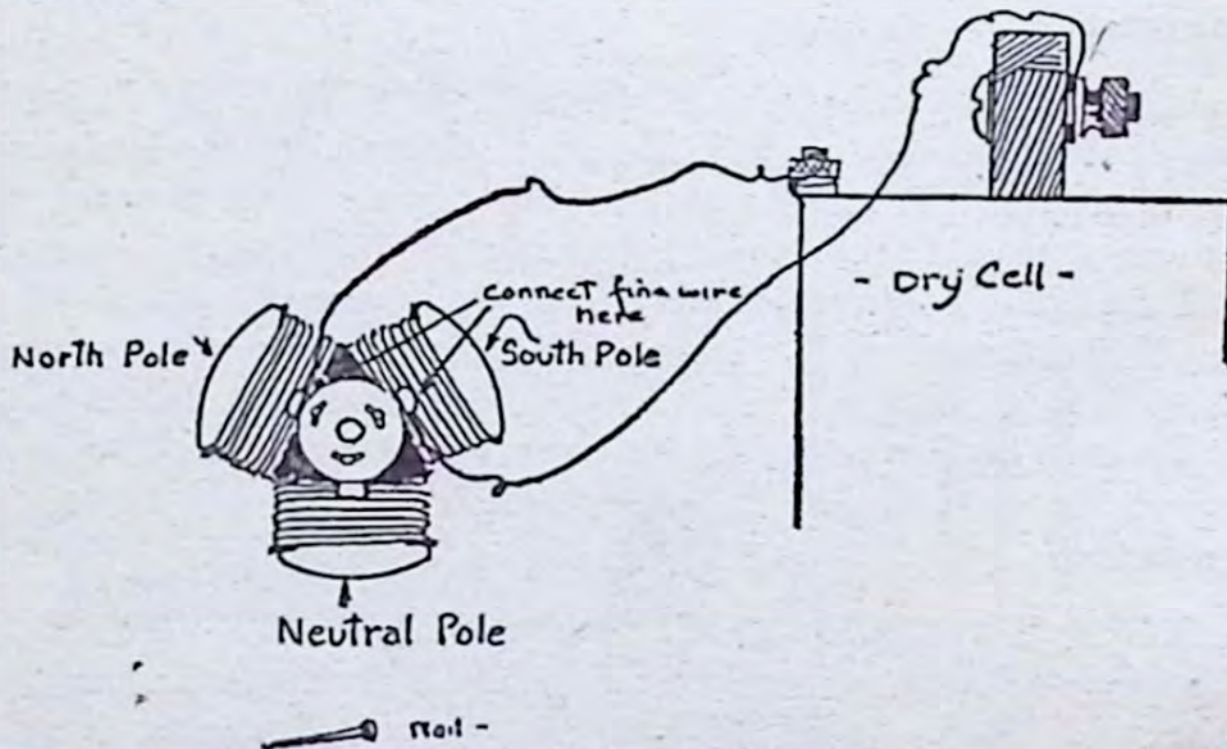

Fig. 11
(13) HOW TO TEST THE ARMATURE POLES FOR MAGNETISM: The core of the motor armature has three pole pieces and each one of these is wound with a separate coil of wire. Now, the thing to do is to find out how many and which poles are magnetized when the current is passed through the coils of wires. You can test them out by twisting a piece of very fine wire around each of the connections where the ends of the armature coils are soldered to the commutator, as shown in Fig. 11. Connect two of these wires at a time with a dry cell or a battery. Now lay a little nail on the table and hold the armature over it. Try the magnetic power of each pole and you will find that two of them are magnetized and that the third one is not.
(14) HOW TO TEST THE POLARITY OF THE ARMATURE POLES: Connect up the armature and a dry cell or battery, as explained in the above experiment, and bring the compass needle near each armature pole in turn, when you will find that one of them is a north pole, the next
one is a south pole, and the last one is a neutral pole; that is, it is not magnetized at all (see Fig. 11). Now when the armature rotates in the motor and the brushes make contact successively with the segments of the commutator, the current flowing through the coils is reversed every time the armature makes half a revolution. Hence, while the poles of the field magnet remain north and south all the time, the poles of the armature change from north to south and then to neutral successively.
commutator, to two coils of the armature at the same time; it goes into one coil by the outside end of the wire and into the next coil by the inside end. This is the reason that one of the armature poles is north and the next one is south as shown in Fig. 11.